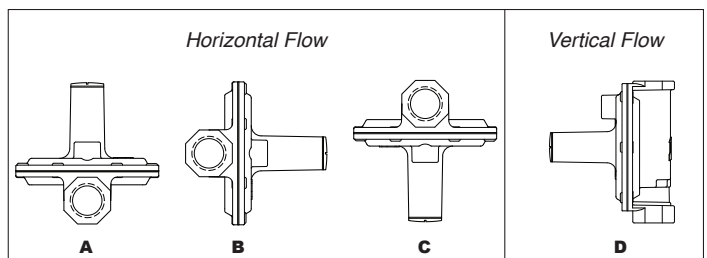

Figure 1: Mounting Positions
5. When installed outdoors, the use of a certified Maxitrol Vent Protector\*\* is recommended, and installation should be in a horizontal upright position (horizontal flow position A, see Figure 1). Regional flood lines and snow depth should be considered when choosing an installation location. Refer to local codes and requirements.